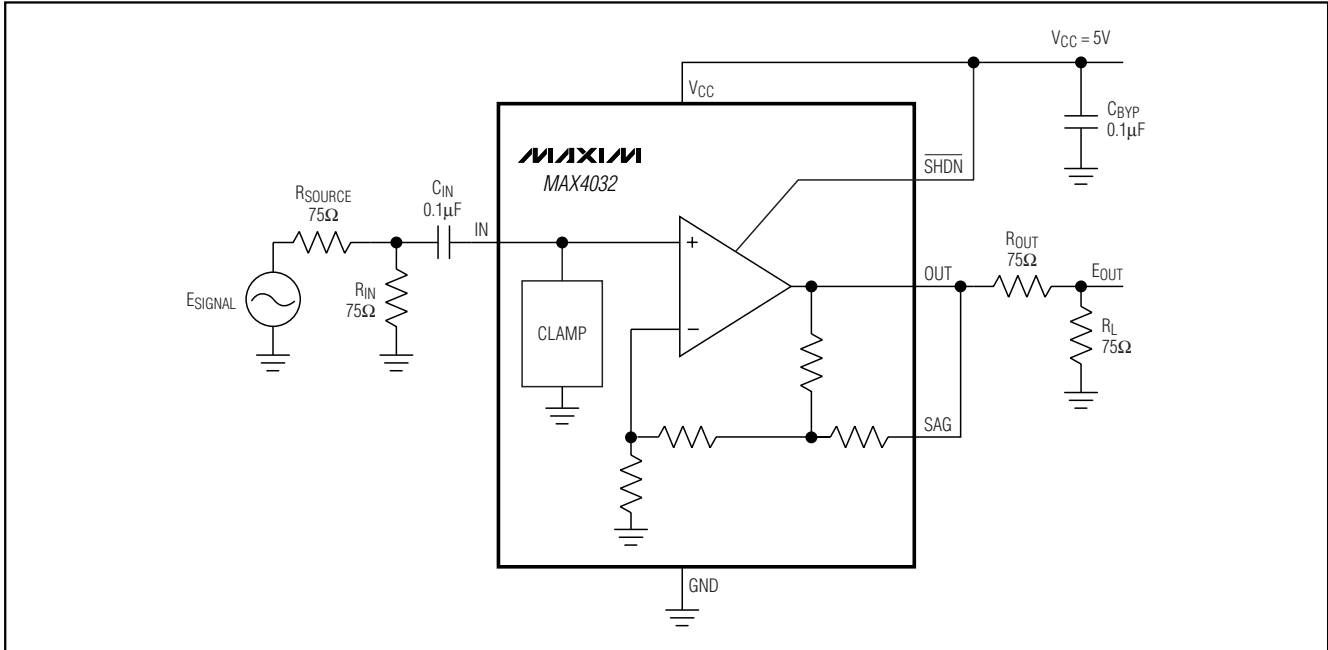

Figure 2. DC-Coupling the MAX4032
- 1) SAG is shorted to OUT and 150 $\Omega$  is directly connected from OUT to ground (see Figure 2).